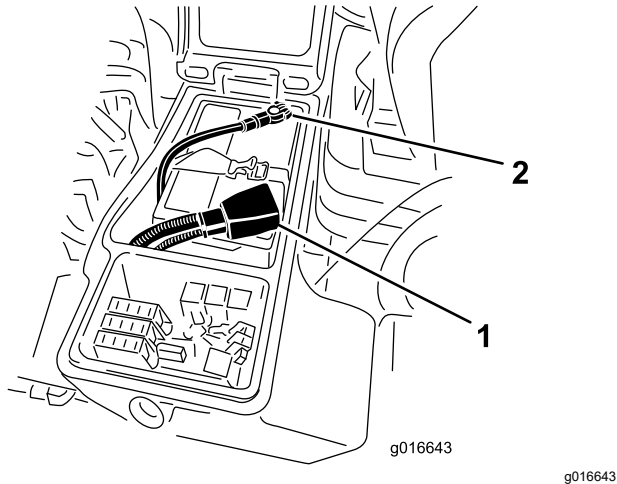

Figure 97
- Install the positive cable (red) to the positive (+) terminal and the negative cable (black) to the negative (-) terminal of the battery (Figure 97).